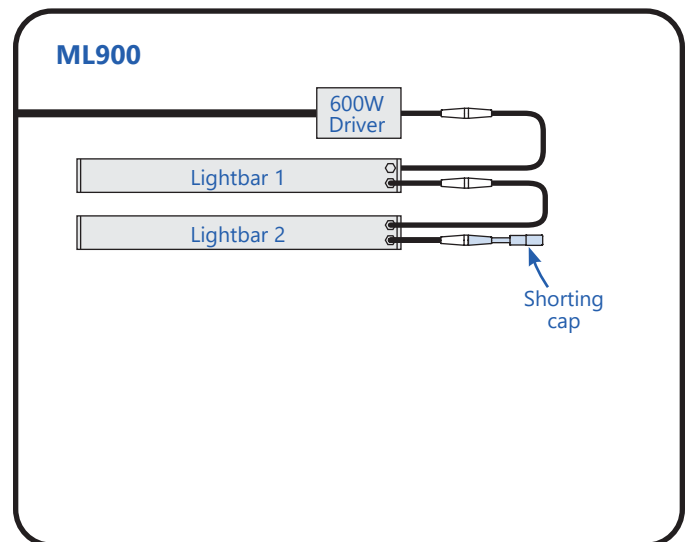

Figure 2
For ML900 (see Fig. 2)
- ① Turn OFF power to driver.
- ② Remove the shorting cap from the Lightbar#2 in Figure 2.
- ③ Connect shorting cap to Lightbar#1. Turn driver power ON.
- ④ If lightbar turns on, then Lightbar#2 is faulty.